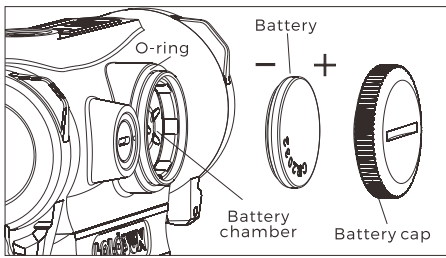

Fig3
3. Please see the Fig 3 for battery installation and Replacement: Battery Replacement(Fig3-1):